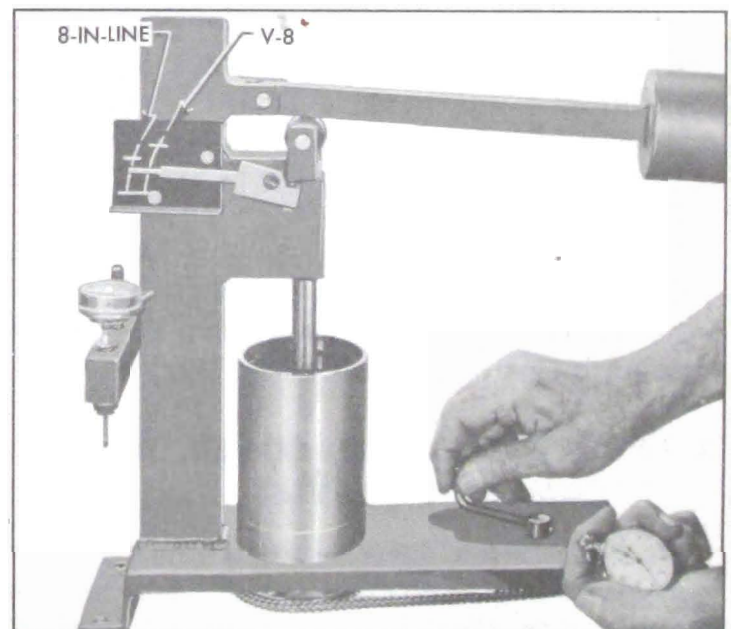

Figure 2-26—Checking Leakdown Rate
4. Lower the ram to rest in the lifter push rod seat, then lower the weight arm to rest on the roller of ram as shown in figure 2-26.
6. Raise weight arm to allow the lifter plunger to come up to its retainer, then lower the arm to rest on the ram roller. As the pointer starts moving upward start rotating the fluid cup by turning the handle one revolution every two seconds. See figure 2-26.
7. Use a stop watch to check the time required for the pointer to move from the lower to the upper mark on scale where marked "BUICK V-8." The cup must be rotated during this test. See figure 2-26.